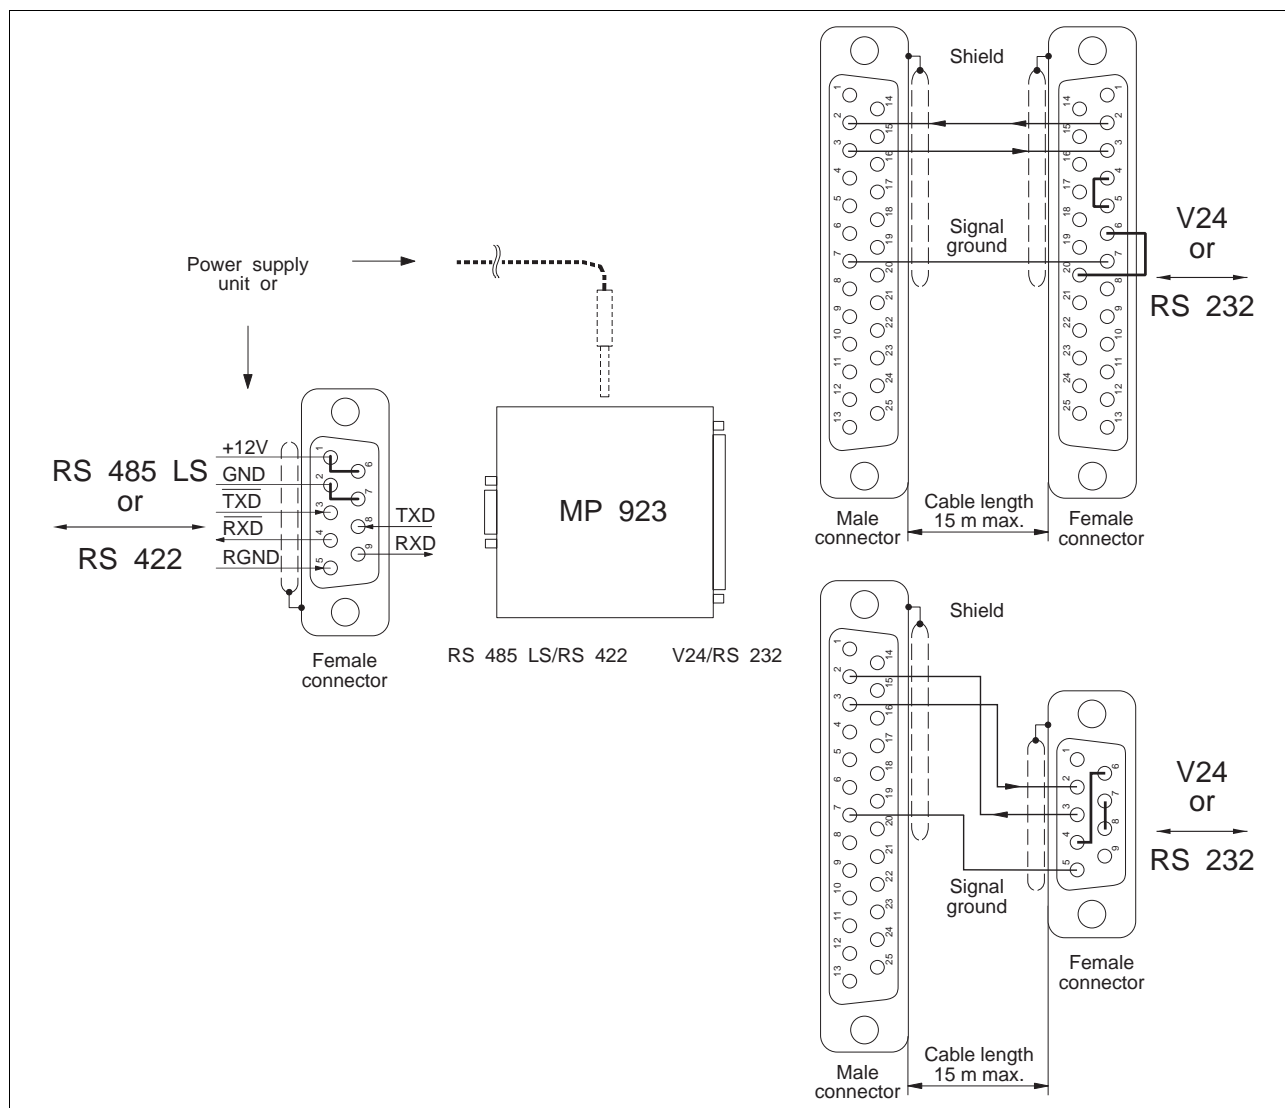

Fig. 6-4 MP 923 interface converter wiring
1. Wire the MP 923 interface converter in accordance with fig. 6-4.